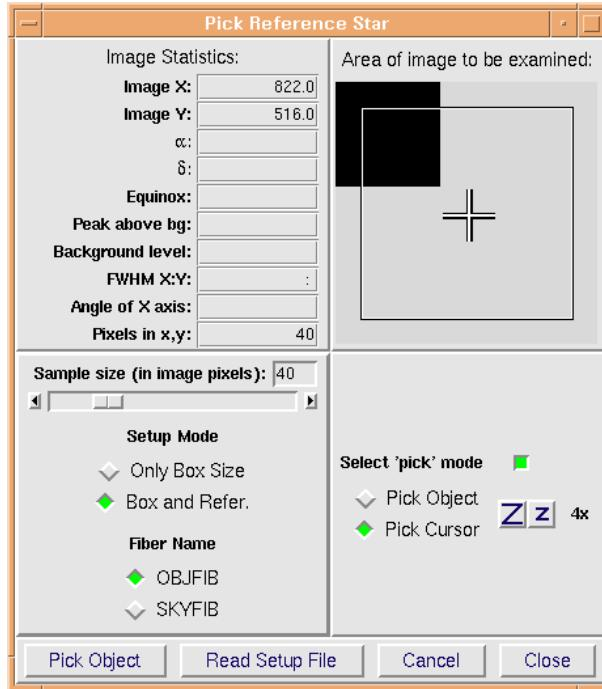

Figure 6.4: Window to set FEROS fibre reference position Pick Reference Star. Select checkbox Pick Cursor.
- a. Open or activate window **Pick Reference Star** (Fig. 6.4, p. 62).